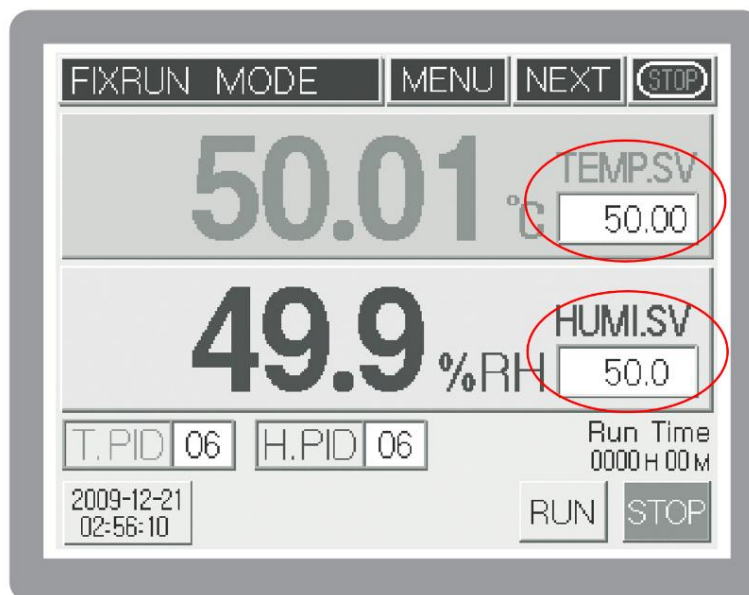

Figure 1
The simplest way to initiate this functionality is on the main display screen (figure 1). You can see, circled in red, the TEMP.SV and HUMI.SV. These are the set-values as mentioned. By default, the PID control mode is SSR – the PID output is located in the output pins on the back of the device, labelled TEMP.OUT and HUMI.OUT respectively. These are the outputs that will drive your heating/humidifying elements.
2. Write a set-value into the TH500A by clicking on them on the relevant screen (figure 1)